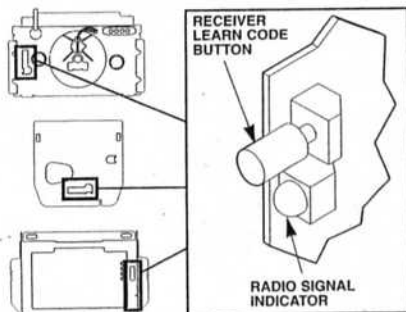

Fig. 1
Step 2-2 Press and release the Learn Code Button **Fig. 1**.